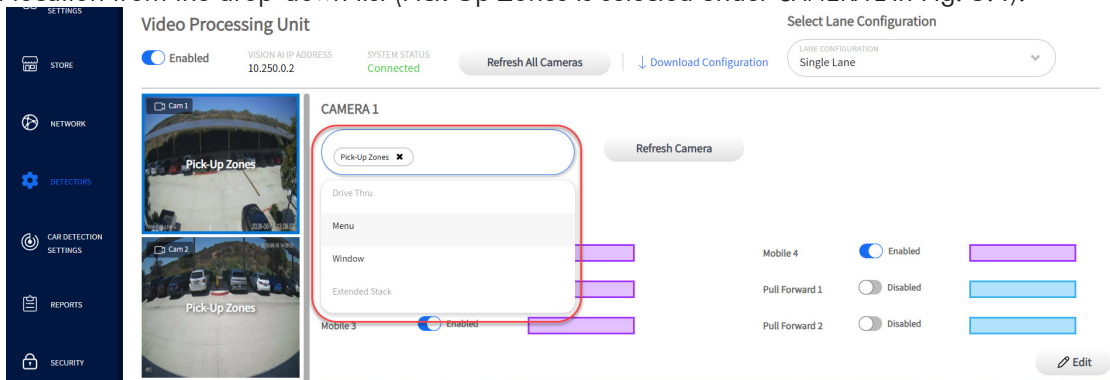

Fig. 5.4
5. Select a location from the drop-down list (Pick-Up Zones is selected under CAMERA 1 in Fig. 5.4).